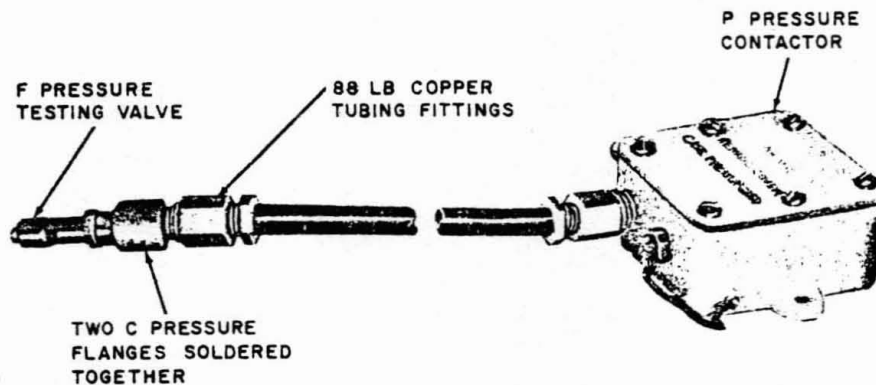

Fig. 7—P Pressure Contactor Prepared for Setting
- (1) Install a 1/4- by 1/8-inch copper tubing fitting (88-LB) and an F pressure valve on the end of the contactor copper tubing stub (Fig. 7). *Push alarm and talk pairs up into the end of the copper tubing before installing the fitting and valve.*